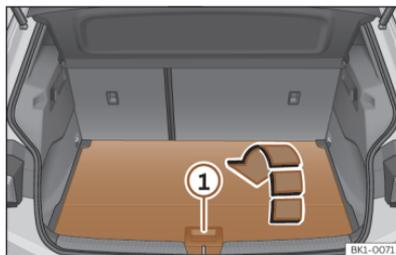

Fig. 171 In the luggage compartment: open the second luggage compartment floor.
- To **open it**, grasp the handle >>> **Fig. 171** **!** and fold the rear of the luggage compartment floor forwards in the direction of the arrow.